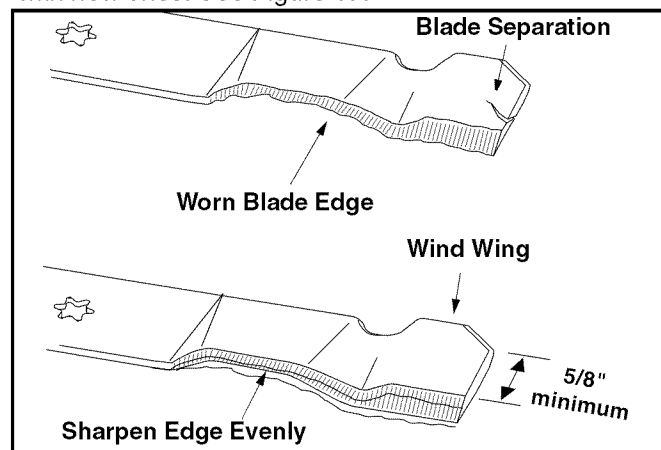

Figure 17
- To properly sharpen the cutting blades, remove equal amounts of metal from both ends of the blades along the cutting edges, parallel to the trailing edge, at a 25° to 30° angle. See Figure 17.
**IMPORTANT:** If the cutting edge of the blade has already been sharpened to within 5/8" of the wind wing radius, or if any metal separation is present, replace the blades with new ones. See Figure 17.